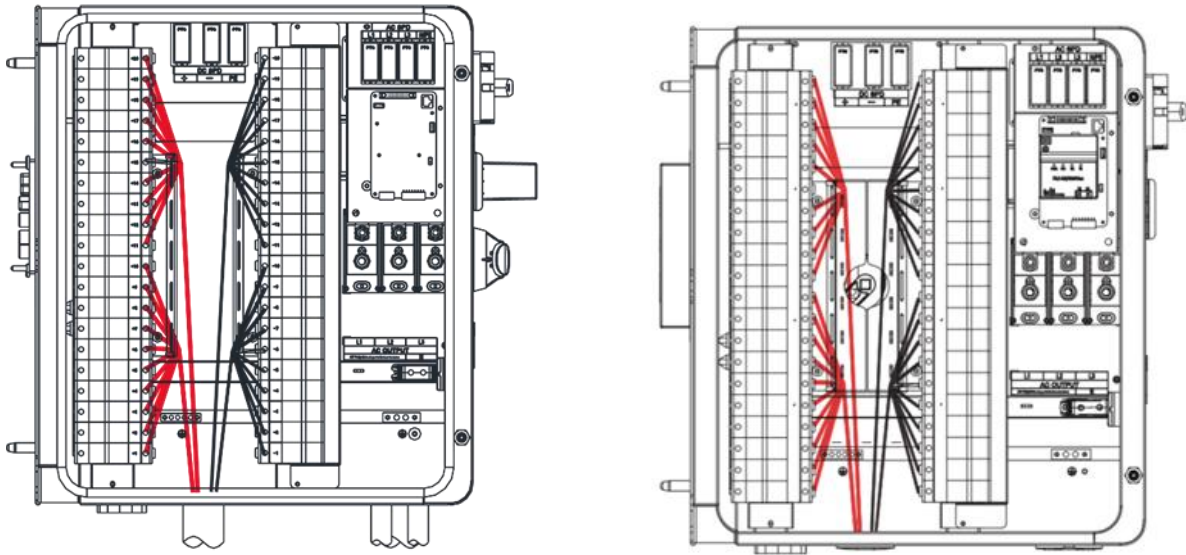
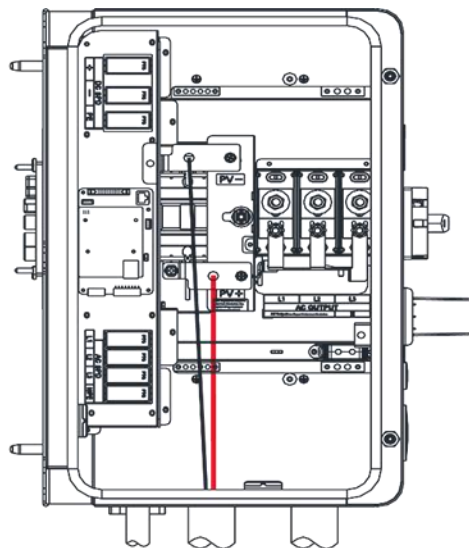

Figure 3-38 DC Cable Connections (Distributed Wire Boxes – Standard & Disconnect Versions)
Figure 3-39 DC Cable Connections (Centralized Wire Box V2)
5. Connect the DC cables to the fuse holders and tighten the screws, as shown in Figure 3-38 (Distributed Wire Box) or connect the DC cables to the DC input busbars as shown in Figure 3-39 or 3-41 (Centralized Wire Box).